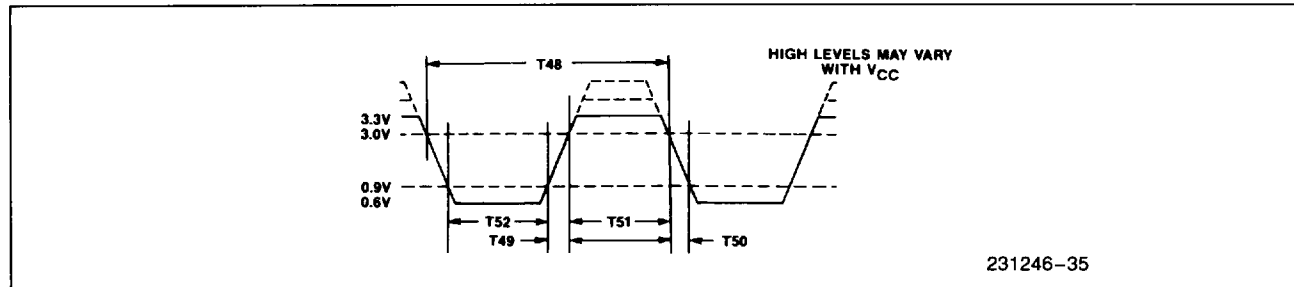

Figure 34. $\overline{\text{Tx}}\text{C}$ Input Voltage Levels for Timing Measurements
14. 82C501 compatible levels, see Figure 34